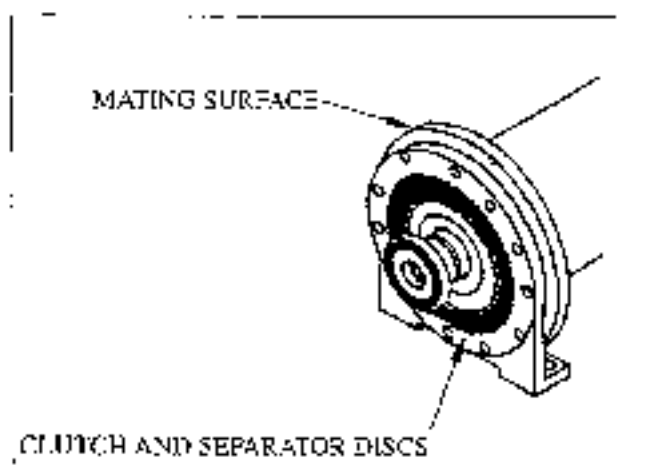

Figure 33
14. Coat the mating surfaces of the main drive mount and the piston assembly with liquid gasket. Place the plastic shims on both mating surfaces of the piston housing. Install the piston assembly. See figure 33 and 34.